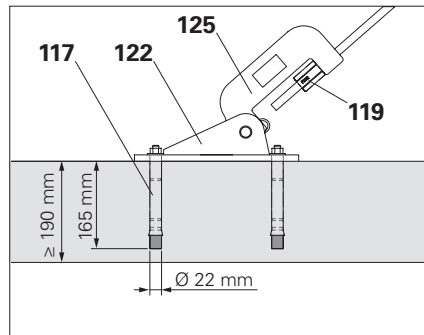

Fig. D1.09b
4. Bolt the articulated spanner (**125**) to the Bracing Shoe RCS DW15 (**122**). (Fig. D1.09b)
7. Attach the bracing shoe (122) with heavy-duty dowels (117) (4 x Ø 22) or (118) (2 x Ø 30) (Fig. D1.09b - D1.09e).
8. Turn the nut (119) in a clockwise direction in order to pre-tension the bracing.